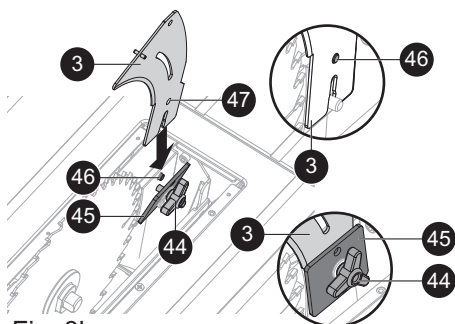

Fig. 3b
- > Insert the riving knife [3] to the left of the tri-wing knob and both washers (see Fig. 3b). Then push the riving knife down, when you hear a “click” the pin [46] is locked into the hole [47] on the riving knife [3].